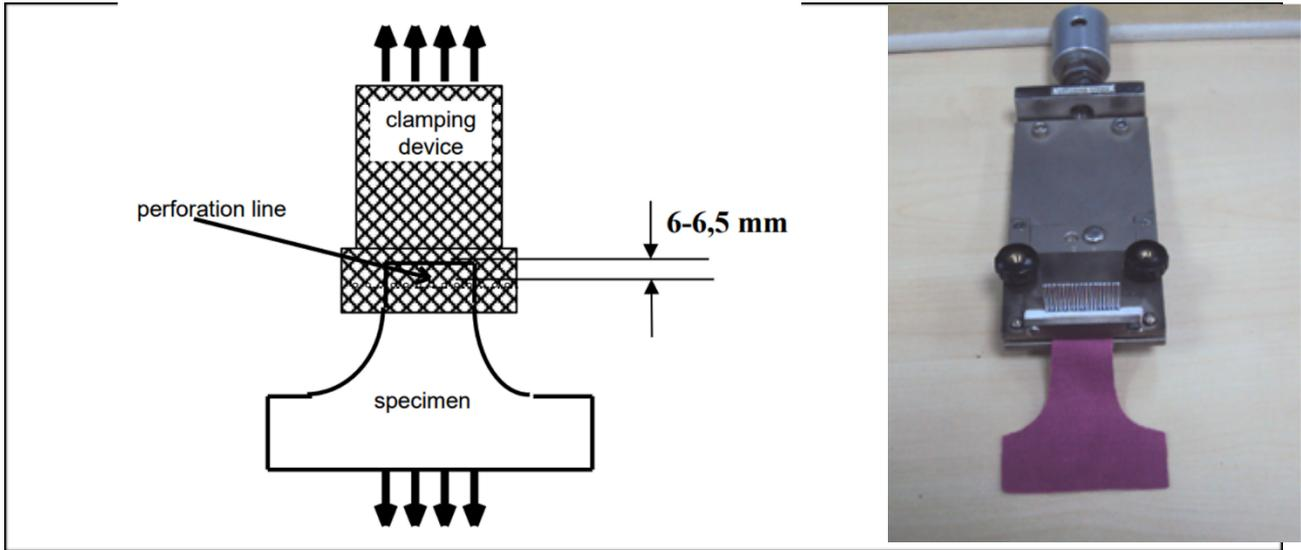

Figure 1 –Needle jig
- Needle jig according to ISO 17697-A (see figure 1) with
- Clamp distance: depending on the length of the testing tool, 20 mm of the specimen free length shall be fixed into the lower clamp of the tensile machine as indicated in figure 1.
- Set load of tensile machine to zero (0).